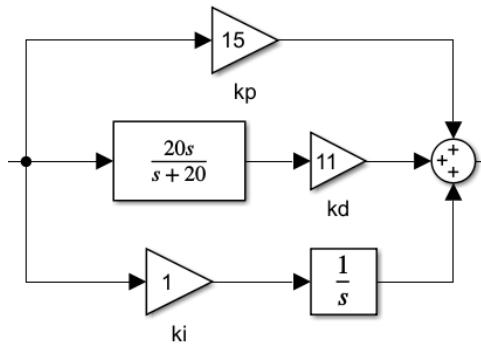

Figure 5: PID gains in a feedback loop
11. The response should now approach the commanded value quickly and settle in a short time. However, even with a large proportional gain, the final position of the Aero 2 still differs from the command value by approximately 0.7 radians. To combat this steady-state error, keeping the proportional and derivative gains at the values identified in the previous step, add an integral gain k_i as well as an integrator in parallel with the other two gains as shown in Figure 5.